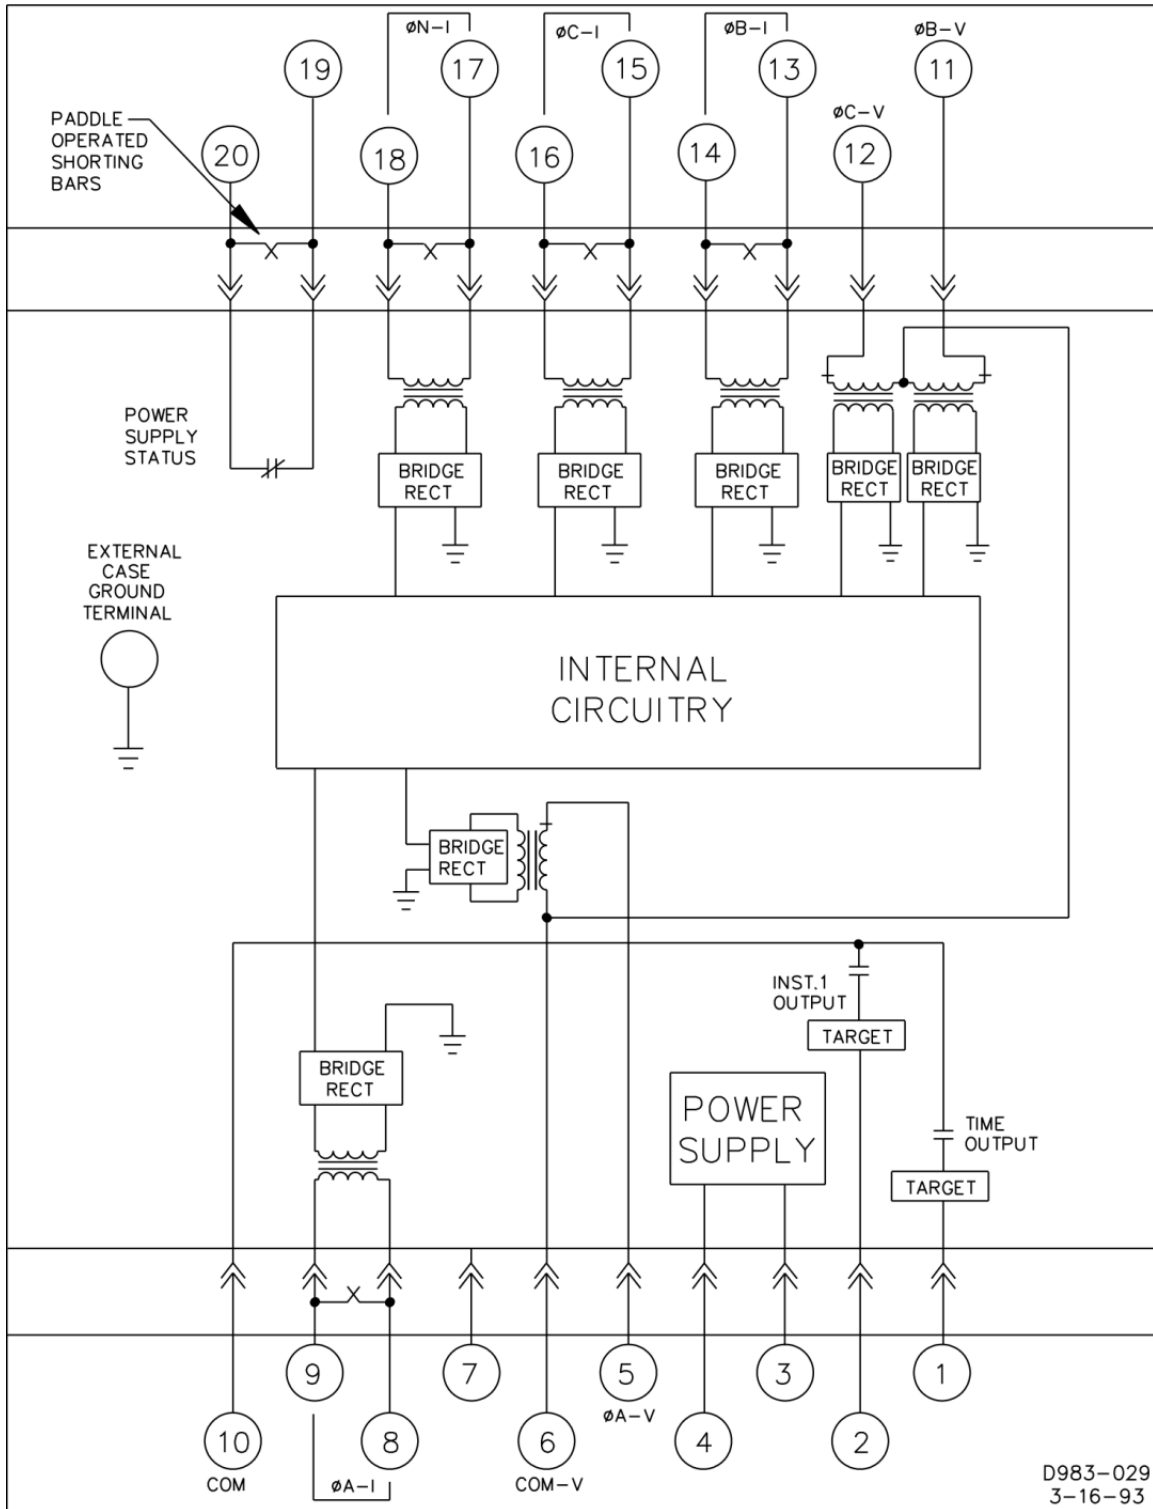

Figure 4-25. Typical Internal Diagram, Sensing Input Type T
- Figure 4-25: Typical Internal Diagram, Sensing Input Type T